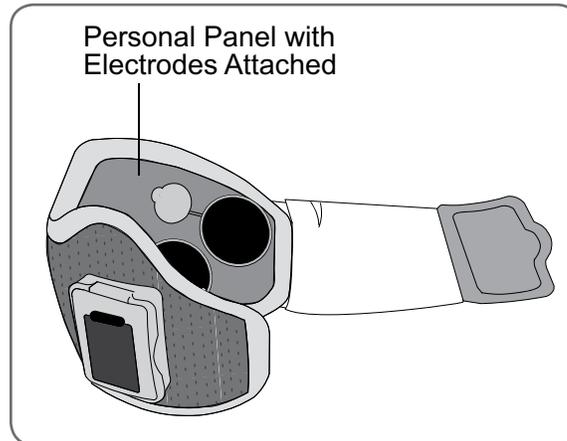

Figure 7-6: Electrode bases and electrodes attached to the personal panel in the L300 FS Cuff. (Regular L300 FS Cuff shown).
- When the patient returns to the clinic for a follow-up visit, attach the personal panel (with the electrode bases and electrodes attached) onto the L300 FS Cuff inner liner. See Figure 7-6.